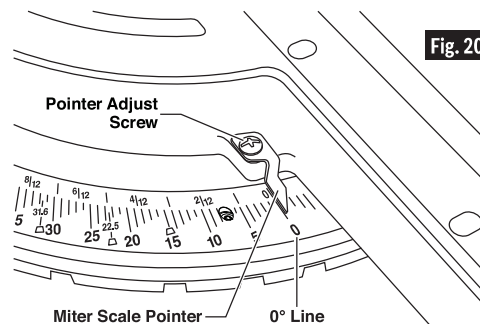

Fig. 20
3. Loosen the pointer adjust screw that holds the miter scale pointer in place (see Figure 20).